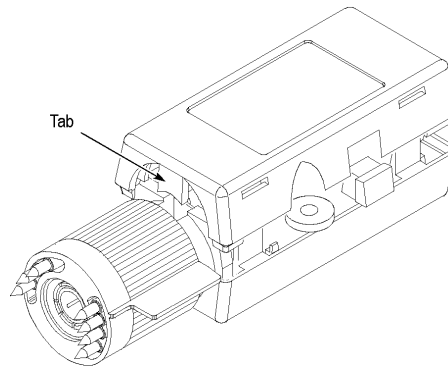

Figure 22: Replacing the Compensation Box Cover
1. Align the TekProbe interface and the strain relief notches with the tabs on the cover. (See Figure 22.)